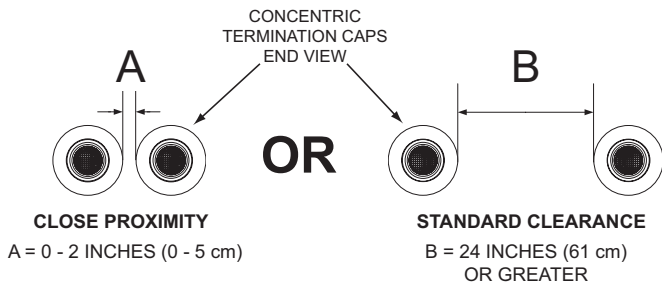
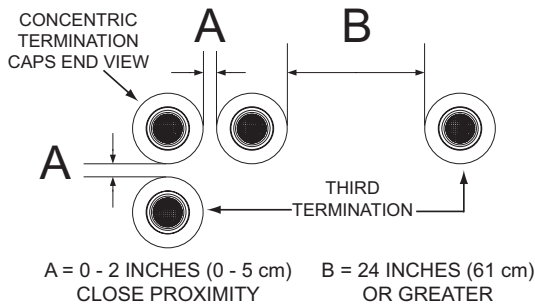
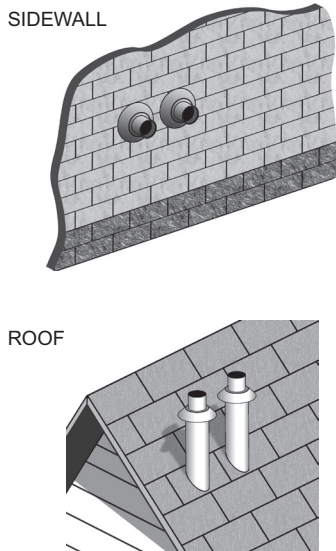

Figure 31. Two Concentric Terminations
Figure 32. Three Concentric Terminations
Figure 36. Two Concentric Terminations (Side-Wall And Roof)
When installing multiple concentric terminations through a roof or through a sidewall the clearances shown in **Figure 31** must be maintained.
1. The clearance between multiple termination caps must be zero inches (touching) to a maximum of two inches (5 cm), dimension A - **Figure 31**, when installing concentric terminations in close proximity. See **Figure 36** (page 33).
2. The clearance between multiple termination caps must be increased to a minimum of 24 inches (61 cm), dimension B - **Figure 31**, when installation in close proximity (above) is not possible. This is the standard clearance.
1. When installing three concentric terminations through a roof or through a sidewall the third termination may be installed in close proximity as indicated by dimension A in **Figure 32**.
2. If close proximity installation of the third termination is not possible the third termination may be installed as indicated by dimension B in **Figure 32**.
Two concentric terminations may be installed in close proximity as shown in *Figure 36* or with standard clearances when this arrangement is not possible. See *Figure 31* (page 32) for detailed information on clearances. See *Figure 32* (page 32) when installing three concentric terminations.